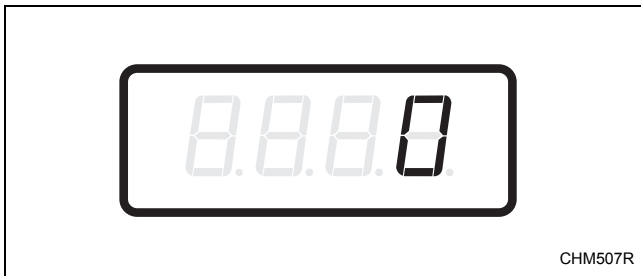

Figure 28
2. When “SA18” appears in the display, press the START (enter) keypad. There are five digits in the Special Vend A Delicates Warm Vend Price. The fifth digit will appear in the display and will flash one (1) second on and one (1) second off. Refer to *Figure 28*.